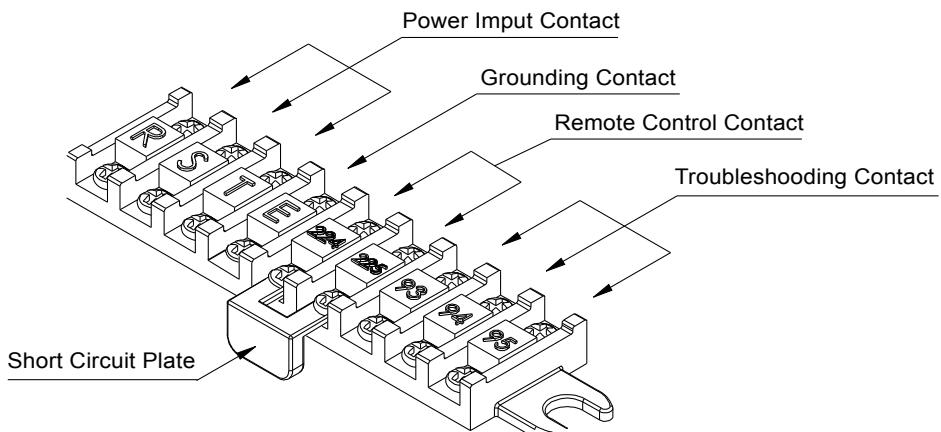

figure 8
- (1) Carefully read the contents of the nameplate on the cooler, especially the voltage and model number before connecting the power.
- (2) The color of grounding wire has to be yellow/green. And the grounding screws should have enough thread to fully contact with the metal guard.
- (3) The input power contact, trouble shooting contact, remote control contact on the terminal block, please refer to figure 8.